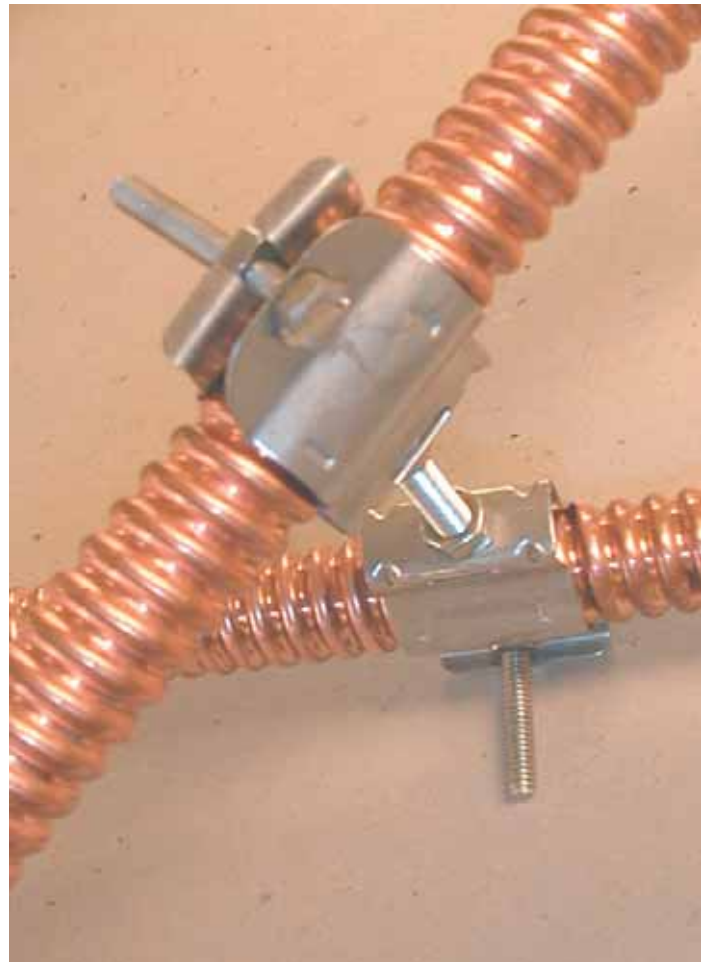

Figure 1. Recommended Cable-to-Cable Electrical Bonding Arrangement
- **Cable to Cable:** Use two cable clamps and a full-threaded bolt or threaded rod with nuts, as shown in figure 1 of this sheet, to secure and electrically bond the cables together.